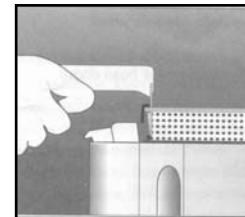

Fig. 5
- Use basket handle (#2) to remove the frying basket (#5) Always make sure the basket handle is securely attached to the basket. To attach the handle to the frying basket, insert the metal part of the handle inside the metal bracket on the frying basket. Fig. 5